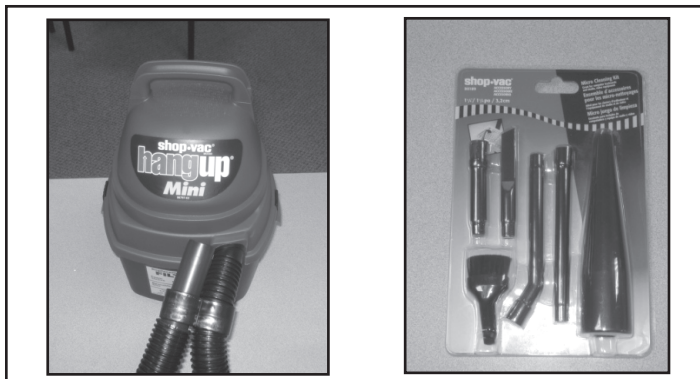

Figure 18.1 - Shop Vacuum and Micro Cleaning Kit examples - items that can be purchased at local hardware stores.
- d. Use the crevice tool to finish cleaning the heat exchanger fins. It is critical that the 2 exhaust exits at the back of the firebox floor (left and right) be thoroughly cleaned. **Figure 18.1** There are several ways this can be done: